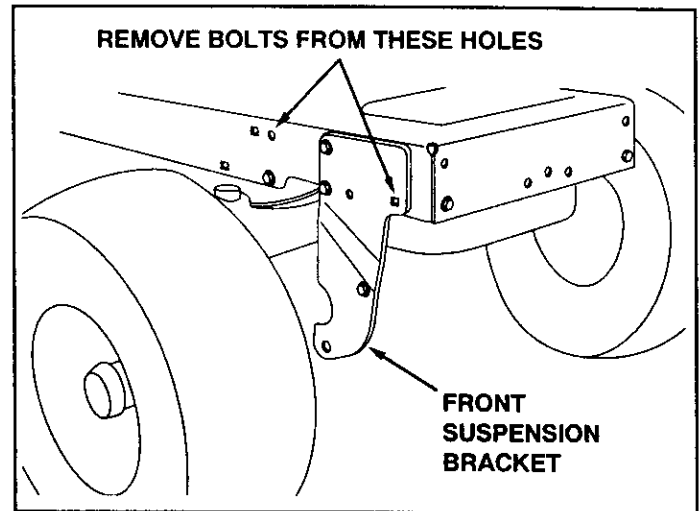

FIGURE 1
- Remove two bolts from each side of the tractor frame as shown in figure 1.